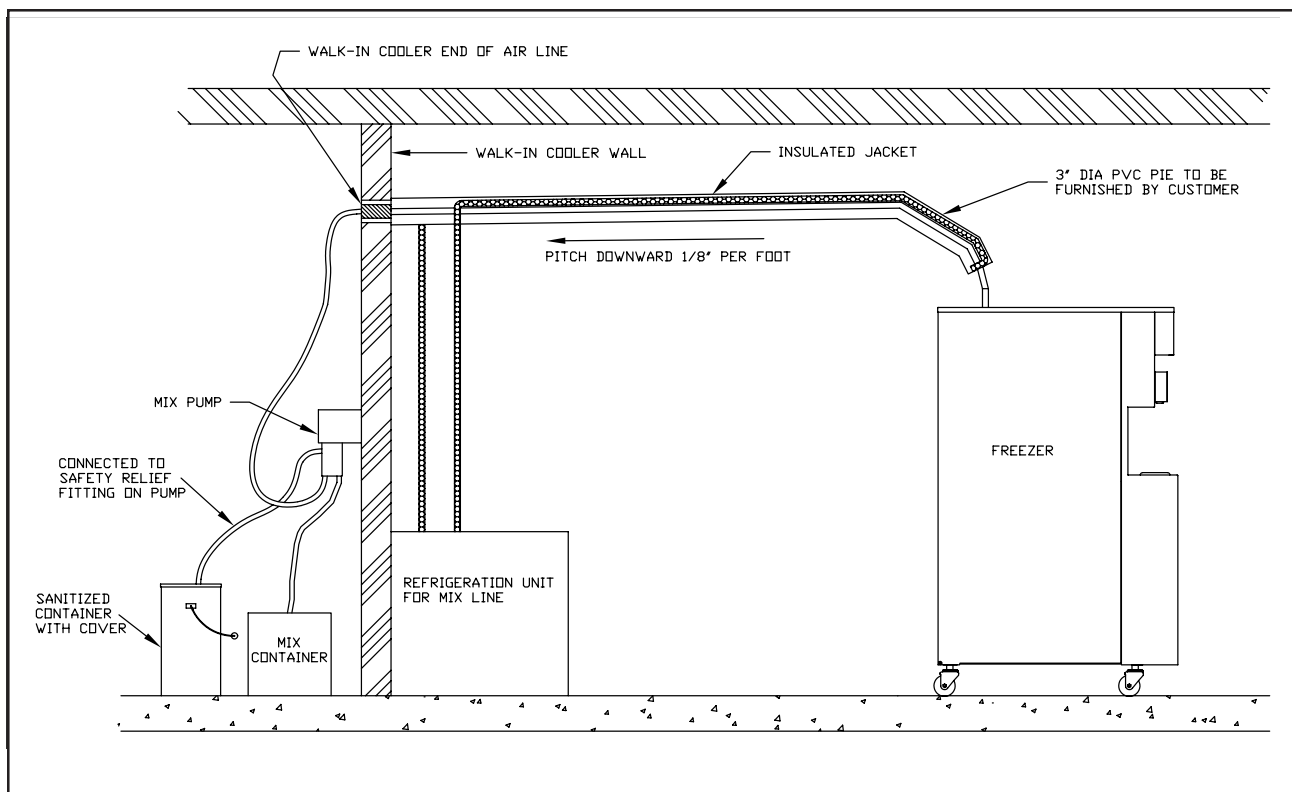

Figure 2. Refrigerated Mix Transfer Line
- A. This unit (**remote pump**) must be installed with a "NSF" listed refrigerated mix transfer line. The mix transfer line must be pitched to cooler, with no sags or low points, to allow complete drainage. (See fig. 2.)
The **hopper** mix pump is completely installed on the freezer. The **remote** mix pump is designed for mounting in a walk-in cooler. Select a location that is close to the soft serve freezer and a grounded 115 volt (220 volt if 50 hertz) receptacle. The mix pump should not be located near heavy traffic or in a congested area. Refer to Figure 2 and the following steps: